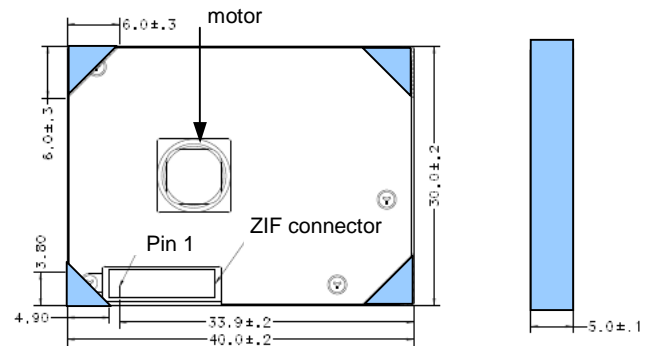

Figure 3 ST1.3 Series, DE/DEG dimensions—end and bottom views
- Do not cover or otherwise obstruct the breather hole on the top of the drive. (See Figure 3)
**Note.** This drive is designed for a product that supplies interface signals and +3.3V power through the ZIF connector. See Figure 3 for drive dimensions.
Follow installation instructions for media devices provided in your product's user manual to determine if your Seagate ST1.3 Series disc drive is compatible. See Figure 3 for drive dimensions. Follow all handling precautions/electrostatic discharge protection suggestions when installing any drive.